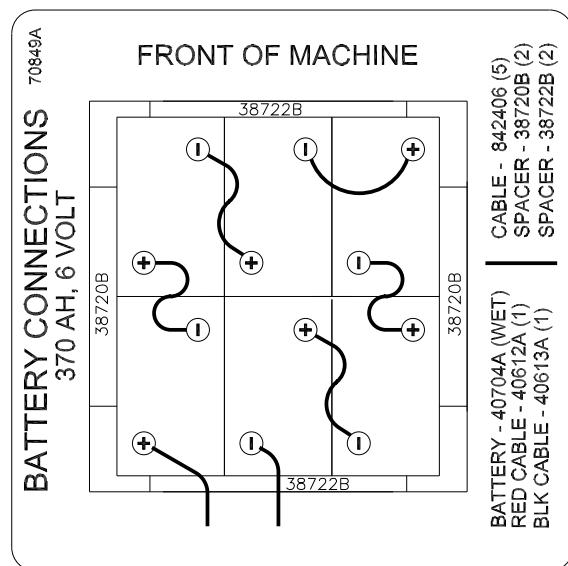

Figure 4
3. Place the batteries in the body as shown in figure 4.
4. Connect the battery cables between batteries as indicated. See figure 4.